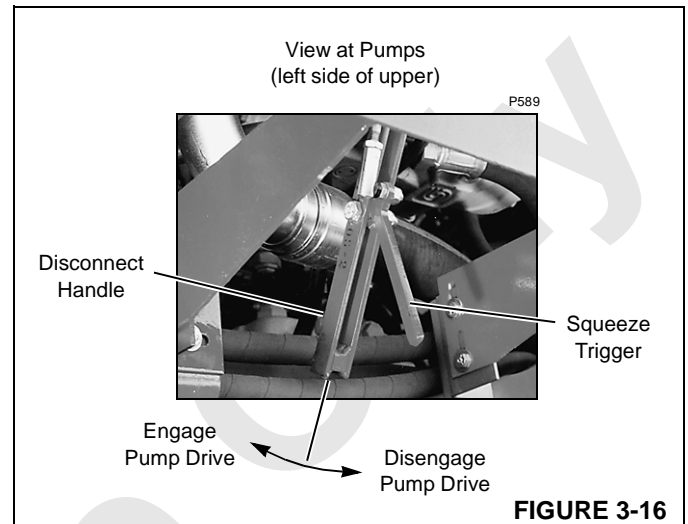

FIGURE 3-16
4. If required, disengage pump drive, as shown in Figure 3-16. This step will disconnect the pumps from the engine and aid in cold weather start-up.